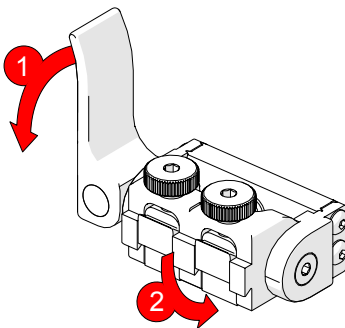

Fig. 28 - Rotate pivot 90° down
1. Release the side-mounted lever and rotate the pivot down 90° (Fig. 28).